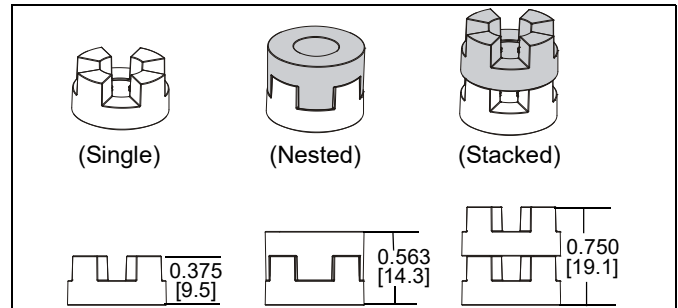

Figure 8
NOTE: The nesting spacers (HM) may be used separately, or put two together in different configurations to create different size spacers. (See Figure 8)